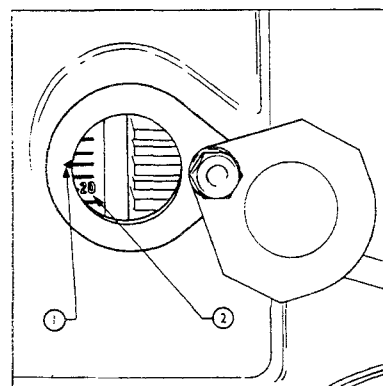

FIG. 12
- b. For engines not equipped with timing scale, it will be necessary to remove aperture cover on flywheel housing (in lower sector, star-board side) in order to check setting from markings on periphery of flywheel (See Figure 12). In marine use this may be difficult due to engine bed interference. A small mirror may be of assistance.